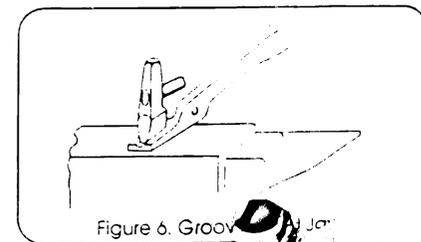

Figure 6. Groove the Jaw
11. Finish the jaws to the shape needed. In every set of tongs should be set to a particular size of stock or job. The importance of using only properly fitting tongs can not be overstated. Work not held almost perfectly is not only unsafe but forces the arm to strain and robs the hammer blows of their effectiveness. The jaws should be grooved with a fuller before assembly, but if you don't have the size required take a piece of round iron and hammer it down in the heated jaws to make the groove. See Figure 6.